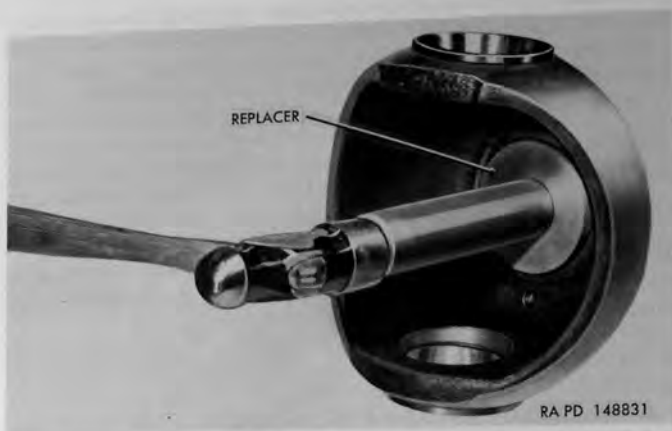

Figure 123. Installing shaft oil seal assembly using replacer 41-R-2392-640.
shaft oil seal assembly (U) into end of housing with lip of seal toward housing. Use oil seal replacer 41-R-2392-640 to drive and properly position seal into housing (fig. 123).
b. Thrust Washer Installation.—Position thrust washer (V) into end of housing with chamfered outer edge toward housing. Use block of hard wood or plastic hammer to drive thrust washer into place until fully seated. Use sharp chisel and stake thrust washer to housing at four points. Use fine stone to remove any protruding metal as a result of staking.